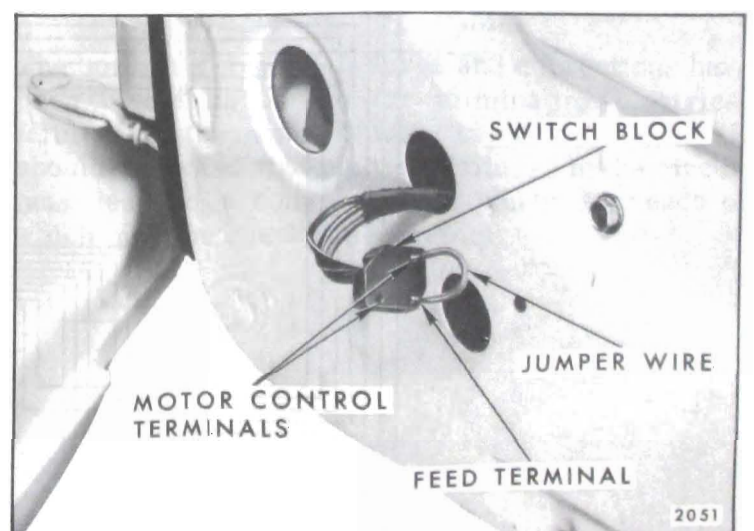

Fig. 11-21—Checking Window Control Switch
1. Insert one end of a #12 gauge jumper wire to the switch feed terminal and the other end to one of the motor lead terminals in the switch block. Repeat this check on the remaining motor lead terminal (see Fig. 11-21).
2. Insert one end of a #12 gauge jumper wire to the switch feed terminal and the other end to one of the motor lead terminals in the switch block (see Figure 11-21).